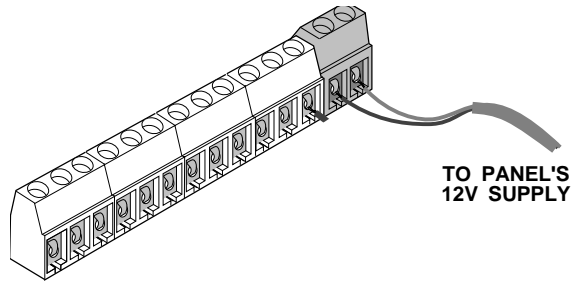

Figure 8. Connecting Panel Power to the Receiver
2. Wire receiver terminals (GND) and (+12V) to a non-switched 12V supply output on the control panel. Make sure you observe the correct polarity (see Figure 8).